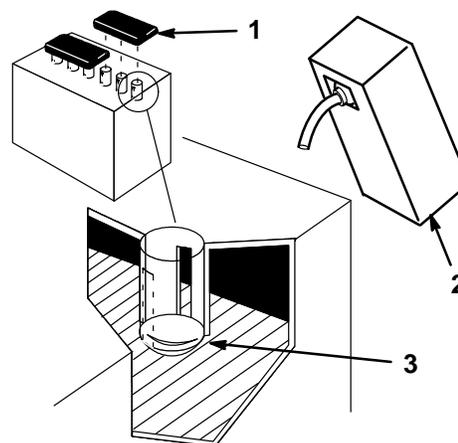

Figure 3
2. Remove the filler caps from the battery. Slowly pour electrolyte into each cell until the electrolyte level is up to the lower part of the tube (Fig. 3). Use an electrolyte with a specific gravity of 1.265.
- Slowly pour electrolyte into each cell until the level is once again up to "UPPER" line on the battery case (Fig. 3), then install the filler caps.